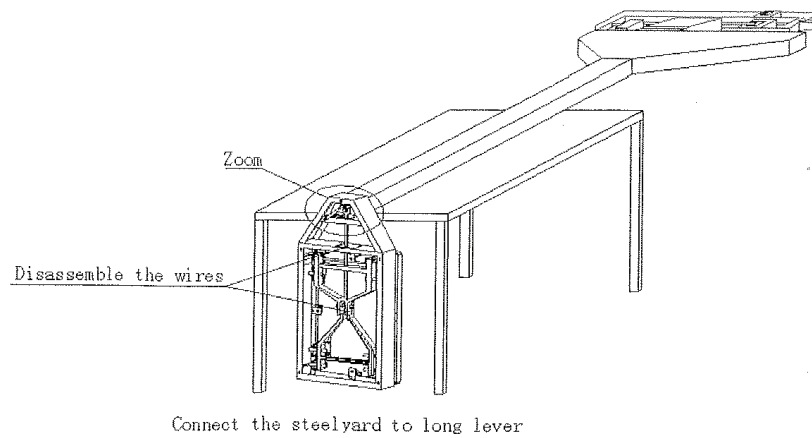

Figure 4. Lay Scale on Table to Access Bottom of Scale
1. Lay the scale on a table as shown in Figure 4.
2. Disassemble the wires on the levers as shown in Figure 4.